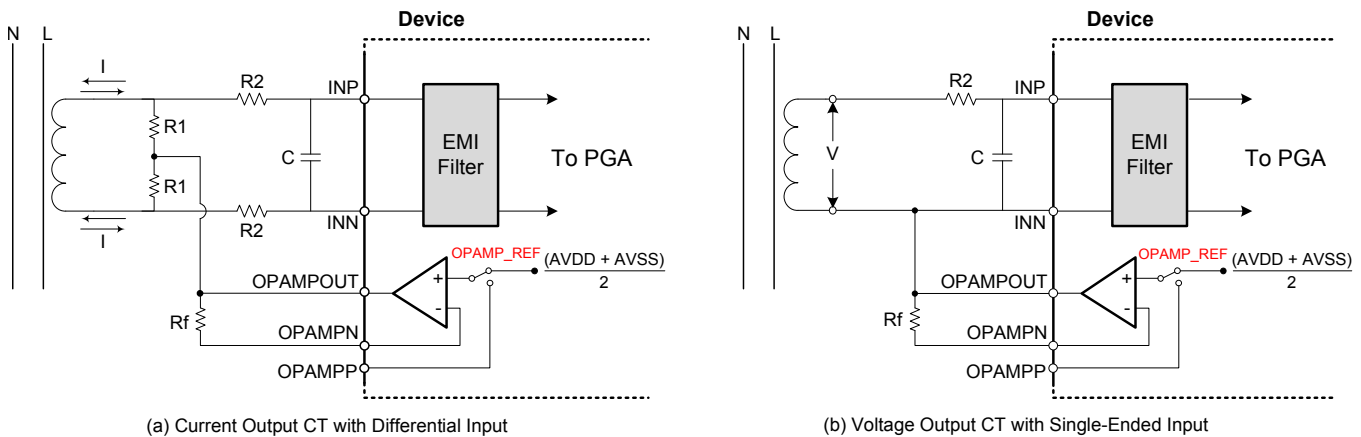

Figure 43. Simplified Current Sensing Connections
Figure 43 shows a simplified diagram of typical configurations used for current sensing with a Rogowski coil, current transformer (CT), or an air coil that outputs a current or voltage. In the case of the current output transformers, the burden resistors (R1) are used for current-to-voltage conversion. The output of the burden resistors is connected to the ADS131E0x INP and INN inputs through an antialiasing RC filter for current sensing. In the case of the voltage output transformers (such as certain types of Rogowski coils), the output terminals of the transformers are directly connected to the ADS131E0x INP and INN inputs through an antialiasing RC filter for current sensing. The common-mode bias voltage $(AVDD + AVSS) / 2$, can be obtained from the ADS131E0x by either configuring the internal op amp in a unity-gain configuration using the R_F resistor and setting bit 3 of the CONFIG3 register, or it can be generated externally with a simple resistor divider network between the positive and negative supplies.